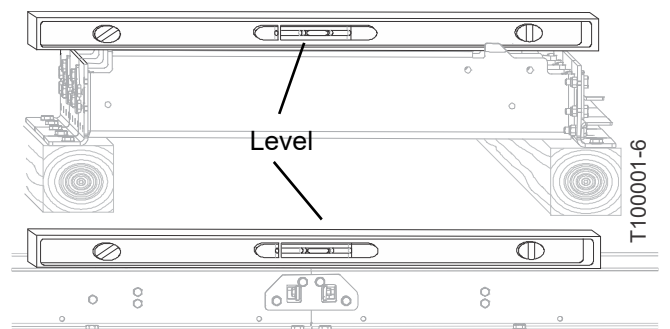

FIG. 3-6
- 2. Use a 4-foot level (or laser level) to level the bed in all dimensions. See FIG. 3-6.